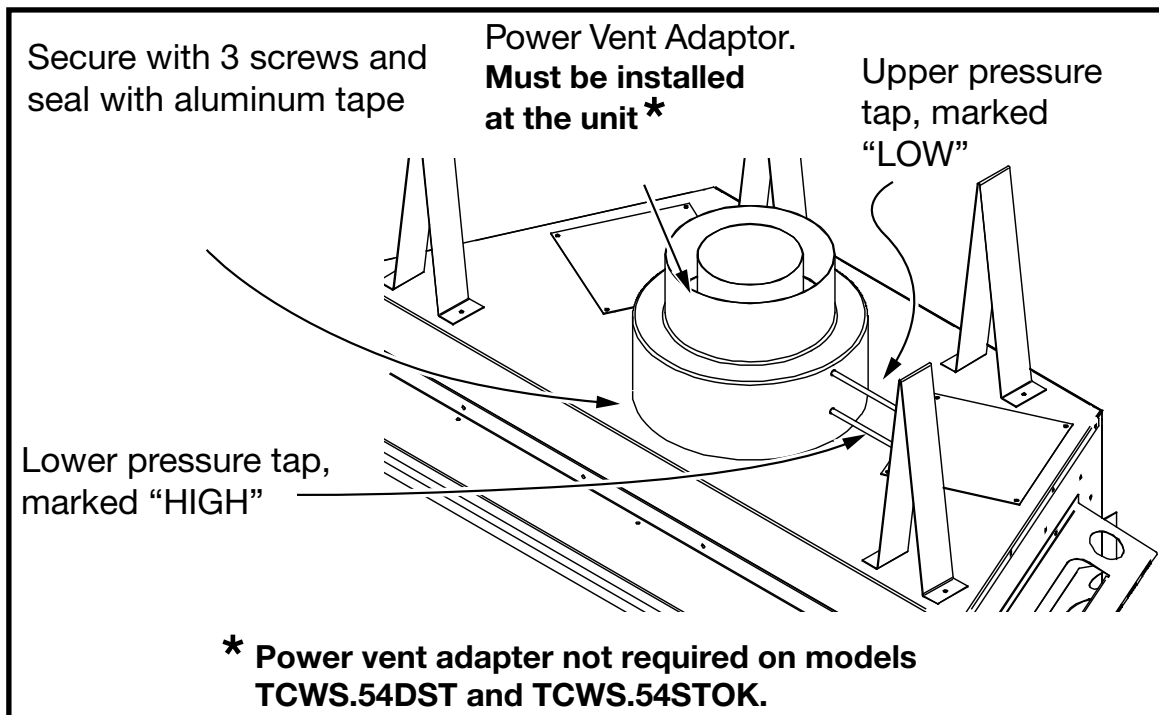
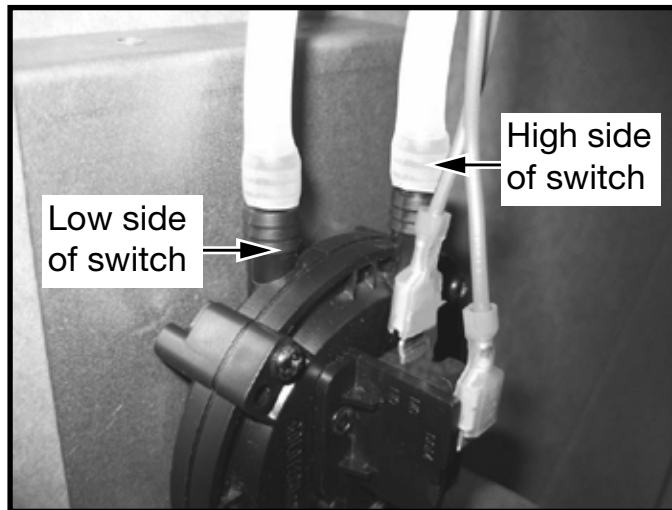

Figure 9: Power vent adapter.
Figure 12: High and low sides of switch for Series D.
1. Attach the vent adaptor directly to the appliance with the three screws (Figure 9) and seal outer pipe with aluminium tape provided.
2. Connect one of the high temperature silicone tubes to the upper pressure tap (marked "LOW") on the adaptor (Figure 9). Secure with the hose clamp provided and route the tube through any hole back to the control box. This tube will be connected to the "low" side of the pressure switch inside the control compartment. Connect the second tube to the lower pressure tap (marked "HIGH") and route to the control box as before. Connect this tube to the remaining port on the pressure switch.
Attach the silicone tube from the upper pressure tap on the power vent adaptor (Figure 9 on page 12) to the “low” port of the pressure switch. Attach the other silicone tube from the lower pressure tap to the “high” port of the pressure switch (Figure 12).